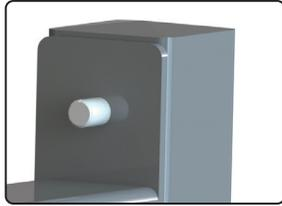
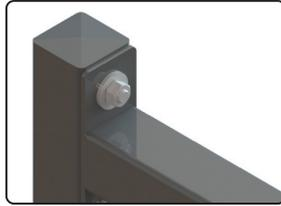

Figure 3 - Open Ended Bolt
Figure 4 - Installed Upper Beam
Washers and M10 Hex Nuts to mount the beam marked "UPPER" to each Base and Post assembly. See Figure 4. NOTE: If installing an Extension Rack, install the bolts on the exterior vertical post from inside the post out, and do not tighten down the bolts. Tighten the nuts by hand to keep the post stable. See Figure 3.
- Observe the posts. Labels marked "ALL TANKLESS WATER HEATERS", "80 – 140kBTU APPLIANCES", and "175 – 199kBTU APPLIANCES" cover the upper lower beam mounting holes. Remove the label that corresponds to the appliance that will be mounted. Then use a 17mm Ratchet or Socket Driver and wrench and the four(4) M10 Hex Bolts with included M10 Washers and M10 Hex Nuts to mount the beam marked "LOWER" to each base and post assembly. NOTE: Ensure the lower beam is mounted in the proper location for the appliance to be installed to the rack. Failure to do so will result in wasted time. NOTE: If installing an Extension Rack, install the bolts on the exterior vertical post from inside the post out, and do not tighten down the bolts. Tighten the nuts by hand to keep the post stable. See Figure 3.